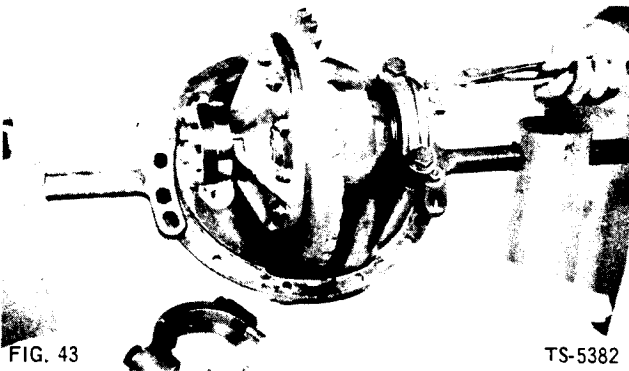

FIG. 43
5. Remove cotter pins and differential adjusting nut lock pins from bearing caps. Cut lockwires and remove bearing cap bolts and bearing caps (Fig. 43).